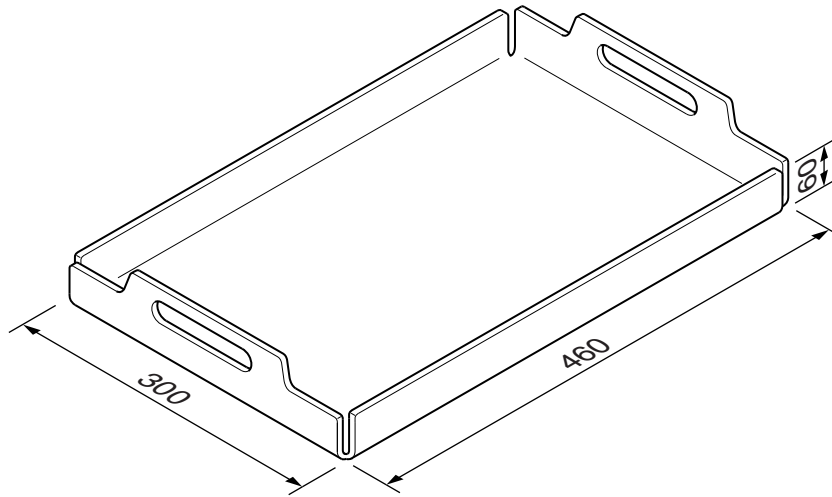

Fig. 7
- 11 Fig. 7 shows a tray made from 6 mm thick acrylic sheet.